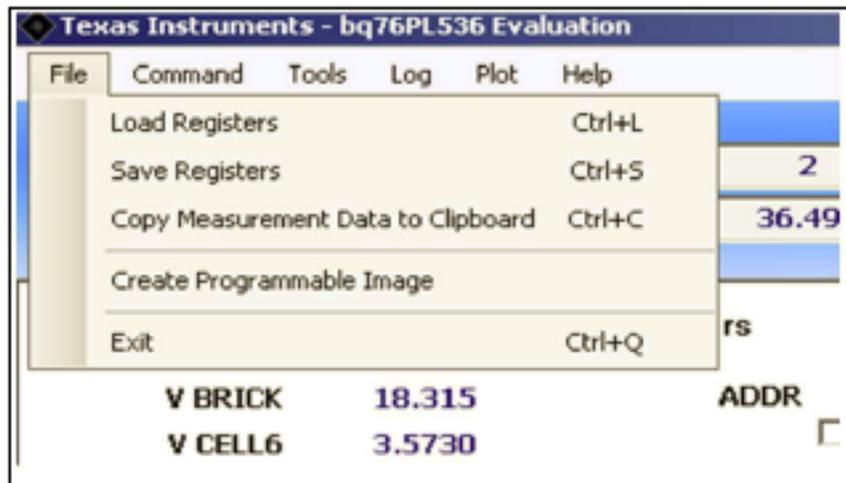

Figure 4. Creating Programmable Image
- (a) Create program image (Figure 4).